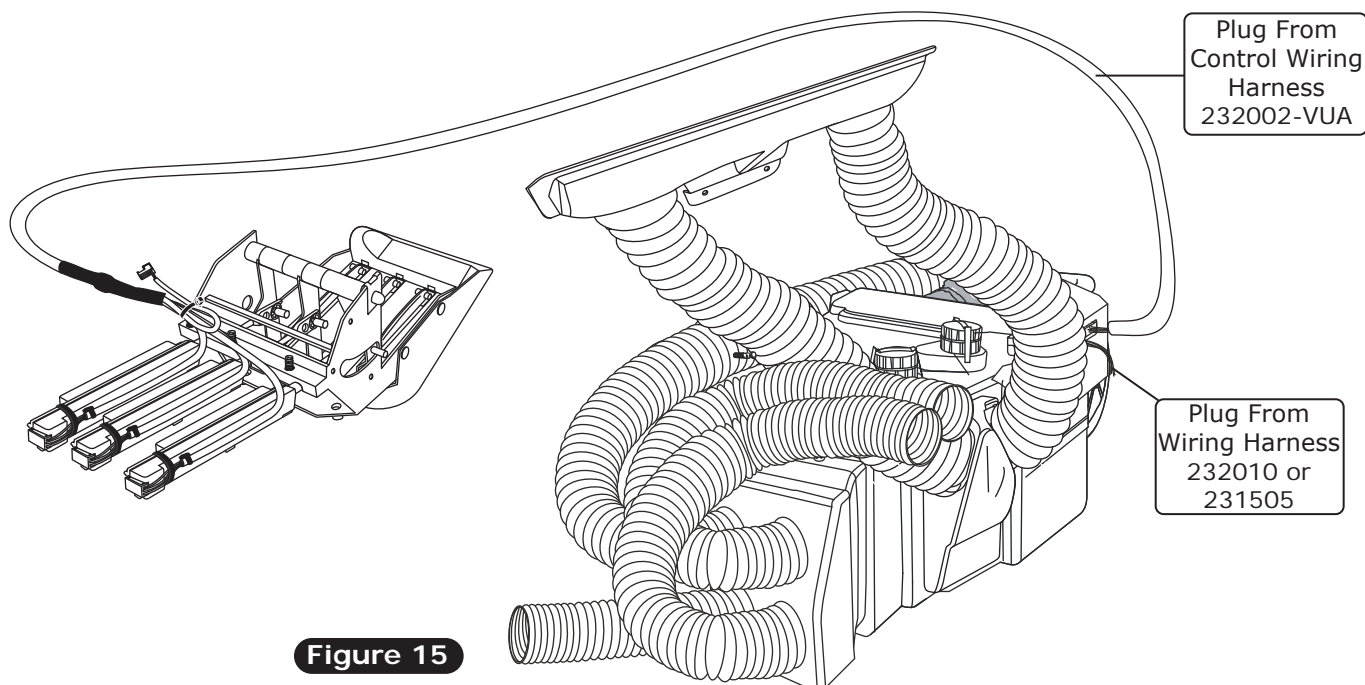

Figure 15
1. Plug the wiring harnesses into the ECU module on the sub case (See Figure 15, below).